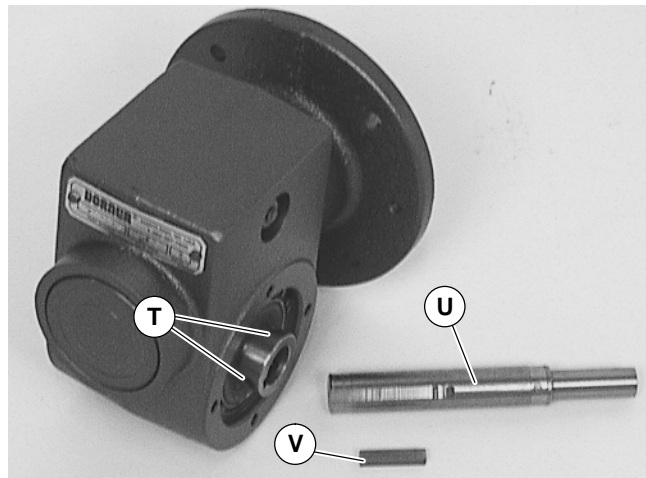

Figure 14
10. Insert the new shaft with adhesive (U Figure 14) and key (V) into new gear reducer. Tighten set screws to 33 in-lb (3.7 Nm).